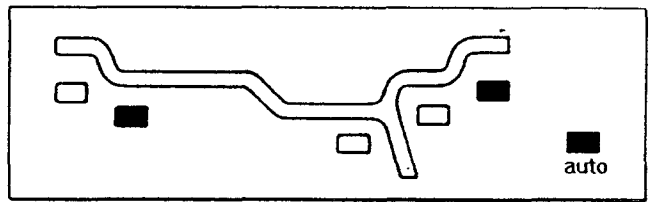

Fig.36
**F. AUTO ALU2.** The wheel weights position is as indicated in Fig.36. In this case use one tape weight on the inside and a clip-on weight on the outer edge.